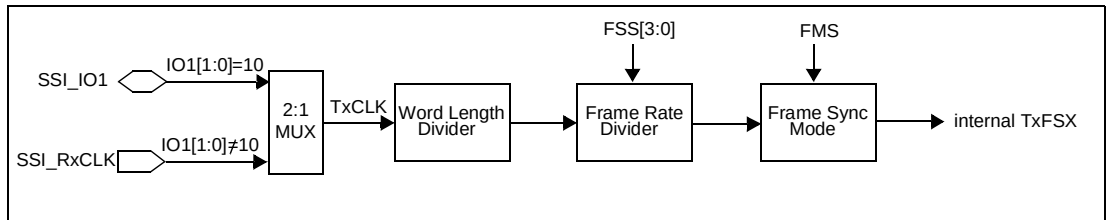

Figure 17-3. Frame synchronization generation block diagram
The internal frame synchronization logic is illustrated in Figure 17-3. An internal Frame Synchronization signal (TxFSX) is being generated from the transmit or receive clock selected by SSI\_CTL.IO1. The Clock is divided by the word length (16) and a Frame Rate Divider which is controlled by the FSS[3:0] bits in the SSI\_CTL register. FMS determines the Frame Mode operation, whether the frame sync pulse is word-length or bit-length. The transmit framing signal is selected depending on SSI\_CTL.IO2, as shown in Table 17-4.